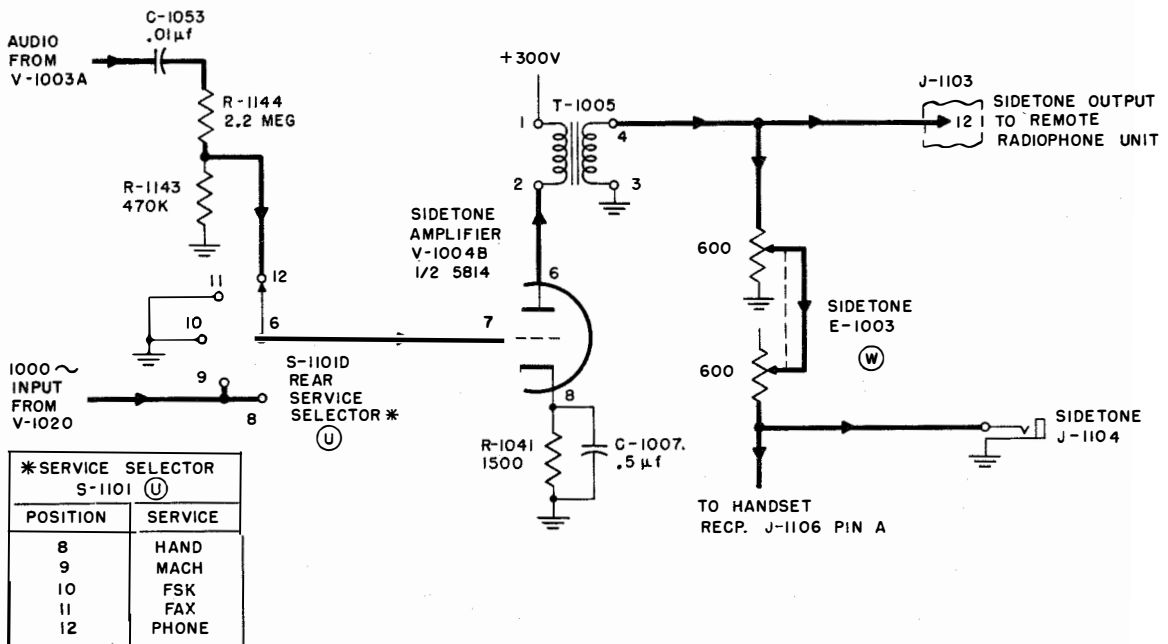

Figure 2-75. Sidetone Amplifier V-1004B, Simplified Schematic
(6) SIDETONE AMPLIFIER V-1004B.—For monitoring purposes, the output of audio amplifier V-1003A is coupled through C-1053 (figure 2-75) to a voltage divider comprised of R-1144 and R-1143. A reduced portion of this signal, obtained from the junction of R-1144 and R-1143, is connected through contacts 12 and 6 of S-1101D rear, when SERVICE SELECTOR switch (U) S-1101 is in the PHONE position, to the grid of sidetone amplifier V-1004B. The output of V-1004B is coupled by an output transformer, T-1005, to three monitoring outputs: the HAND SET receptacle, J-1106, the SIDETONE jack, J-1104, and to the remote radiophone unit. The output to J-1106 and J-1104 is under control of SIDETONE attenuator (W) E-1003, which is an L-pad. Besides acting as volume control for the